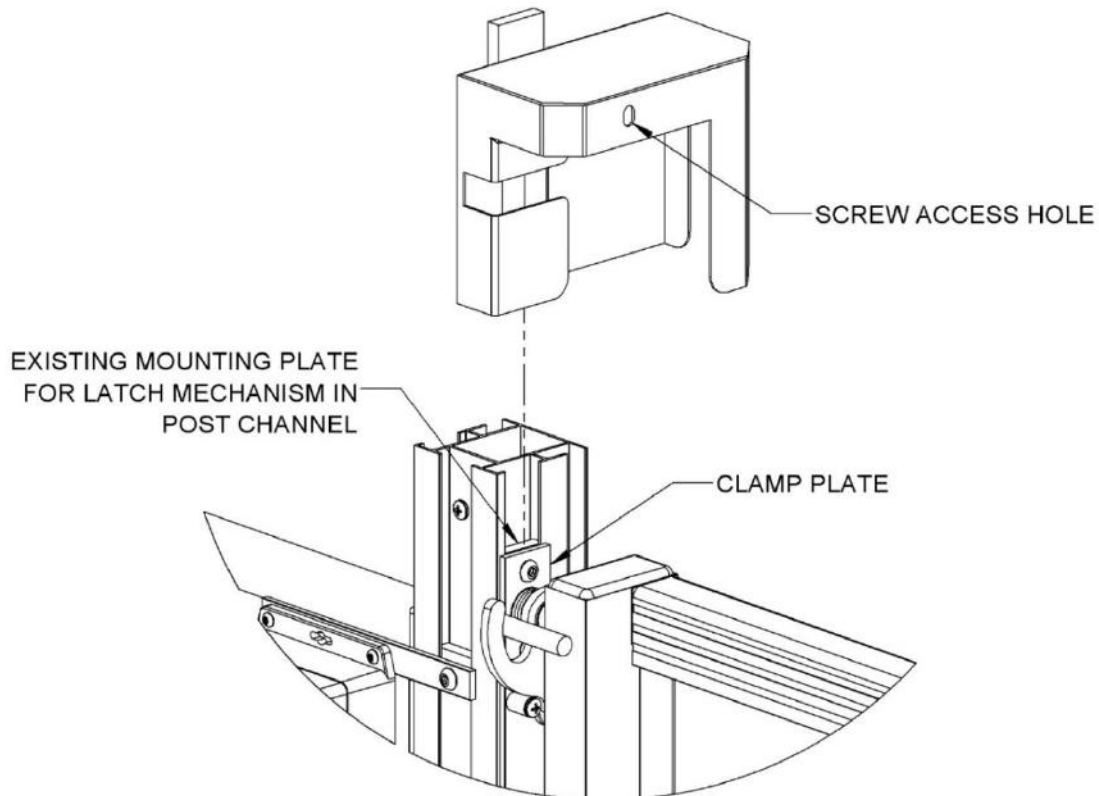

FIG. 9.12
- 9.5.2.3.1. Place the latch cover over the latch mechanism and flush with the gate post, referring to FIG. 9.12 for orientation.
- 9.5.3.2.1. Screw head can be accessed via the access hole (FIG. 9.12).
- 9.5.3.3. Put latch cover assembly in place by sliding the mounting plate into the same post channel as the existing gate latch mechanism mounting plate (FIG. 9.12).
- 9.5.3.4. Secure latch cover by tightening the 5/16"-18 x 1/2" button head socket cap screw, accessed via the screw access hole, against the inside of the post channel (FIG. 9.12).